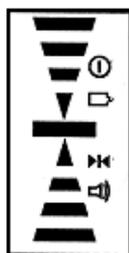
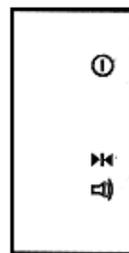

图 3
图 4
- (1) Note: Keep the instrument stable, when detecting.;
- (2) Press the ON/OFF, LCD display all the segments for 0.5s(see fig.3), then detect and LCD display ON and detecting symbol;(see fig 4).